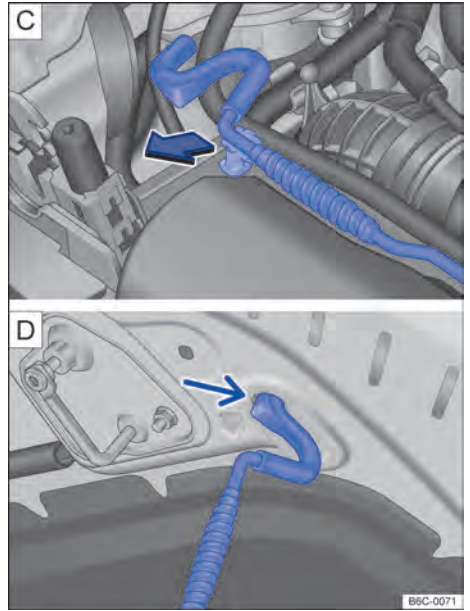

Fig. 182 [C] Bonnet stay. [D] Bonnet secured with the bonnet stay.
- Take the bonnet stay out of the holder as indicated by the arrow → Fig. 182 [C] and insert it into the opening in the bonnet → Fig. 182 [D].
- Take the bonnet stay out of the opening in the bonnet → Fig. 182 [D] and place it back into its resting position holder on the lock carrier → Fig. 182 [C].